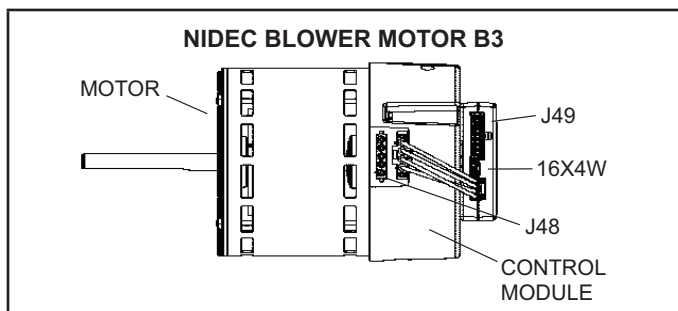

FIGURE 1
- 3 - Unplug the 5-pin (J48) connector from the control module and the 16-pin (J49) connector from the 16X4W black box (see Figure 1).